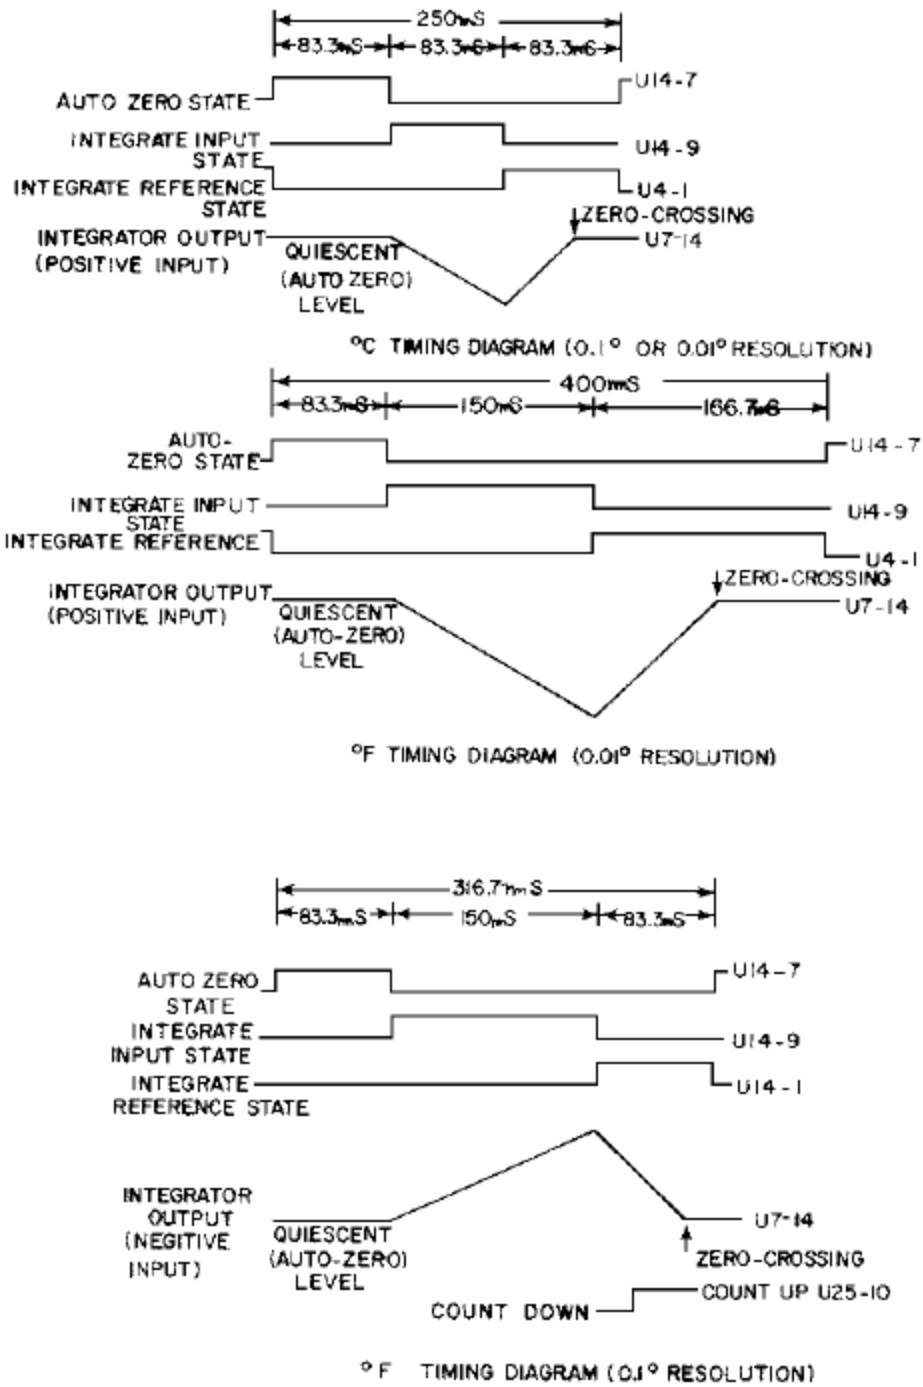

Figure 22. A-D converter and display.
(4) A-D converter and display (Fig. 22)
The basic 100 microvolt per LSD (least significant digit) sensitivity provides 0.1 degree Celsius resolution for the 1 Millivolt per degree Celsius input and 0.01 degree Celsius resolution for the 10 Millivolt per degree Celsius input. To provide Fahrenheit readings, the input signal is multiplied by 1.8 (by extending the integrate input state) and offset by 32 degrees (by presetting an Up/Down counter). Refer to the A-D converter timing diagram, (Fig. 22). The A-D converter has three states: